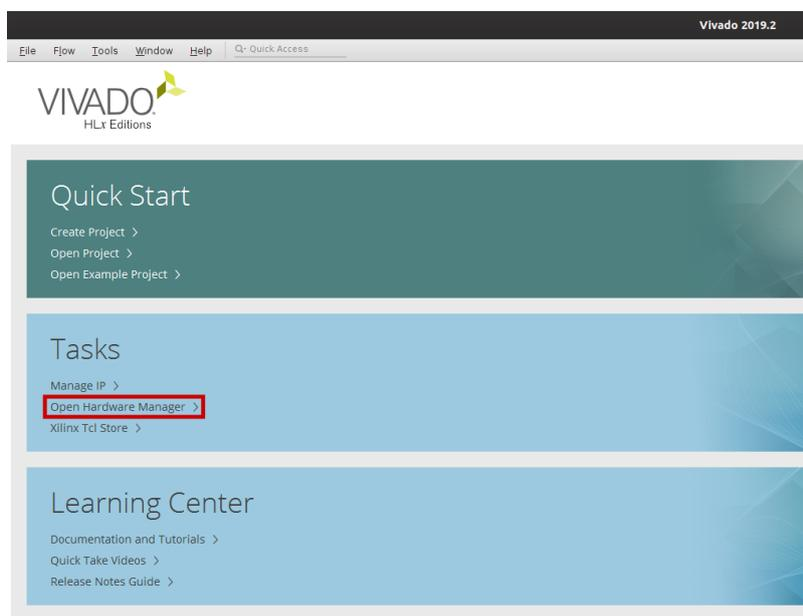

Figure 111. Open Hardware Manager
- d. Open the *Hardware Manager* available in Vivado and highlighted in Figure 111.